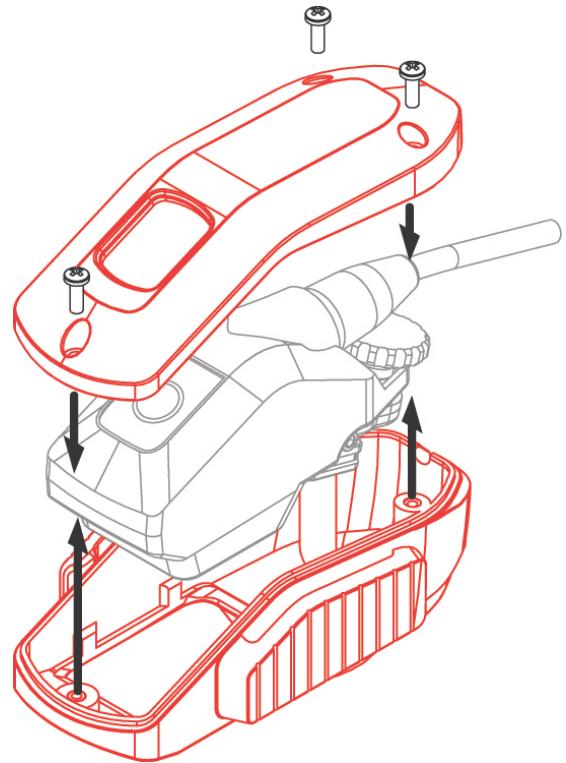

Figure 18: Tac-Eye Handle
The Tac-Eye 'Handle' is an accessory that fits over the existing HMD making the viewer more ergonomic for the hand and provides two (2) clips on either side for mounting to a belt, pouch, sleeve, or MOLLE. This is an accessory for users preferring a 'stow and go' application and is shown to the right in Figure 18.